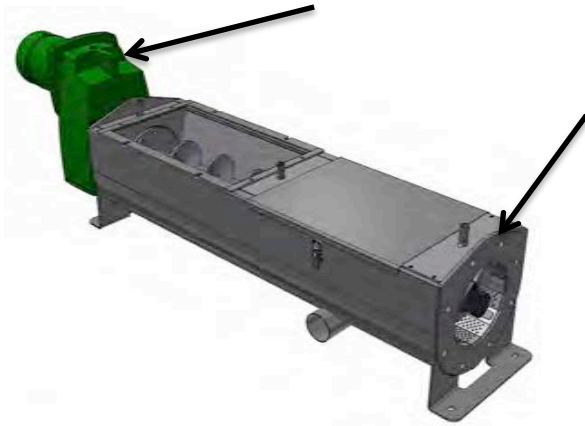

Figure 3 Lifting the machine, arrows showing lifting lug and placement of lifting belt
- The machine must only be lifted at the designated lifting lugs or lifting points – please see Figure 3 (lifting lugs are located on the gear drive & a strap/belt can be used at the wash press discharge flange).